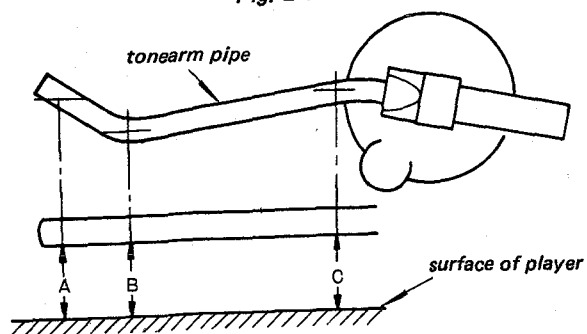

Fig. 2-12
5. After replacing the new arm pipe, install the tonearm so that the three portions of A, B and C keep the same height as shown in Fig. 2-12.